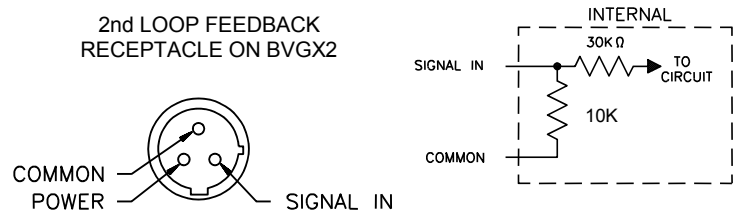

Figure 1
3. See figure 1 and 2 for second loop connections.
2. If Burling Valve BVDS series transducer is used as the external feedback source, attach it to the auxiliary receptacle on the BVGX2 unit. (Figure 1)